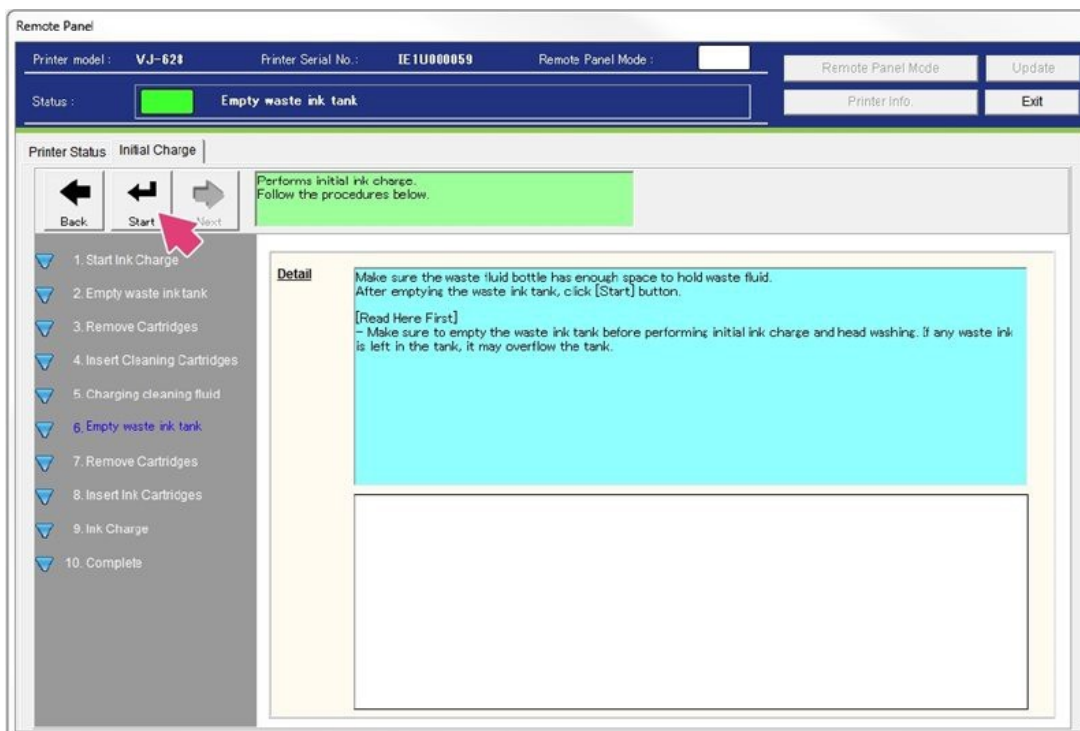

Figure 57
44. When the cleaning is complete, you will be prompted to empty the waste tank. Confirm the waste tank is empty and select **Start**. See Figure 57.